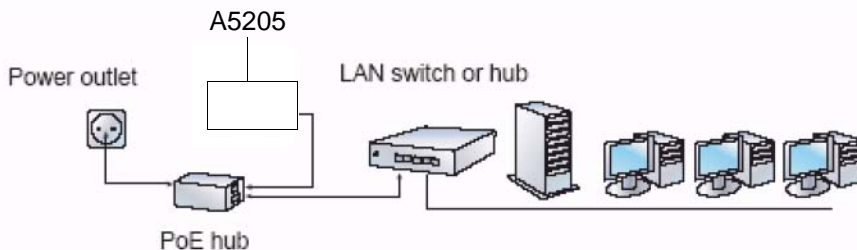

Figure 3-2: Powering up A5205 via 802.3af-compliant
- 3) Plug the power cord into an electrical outlet. See Figure 3-2.